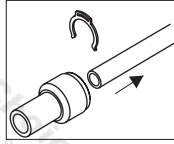

Fig. 3
- 3) Pull out flexible tubing (Fig. 3).